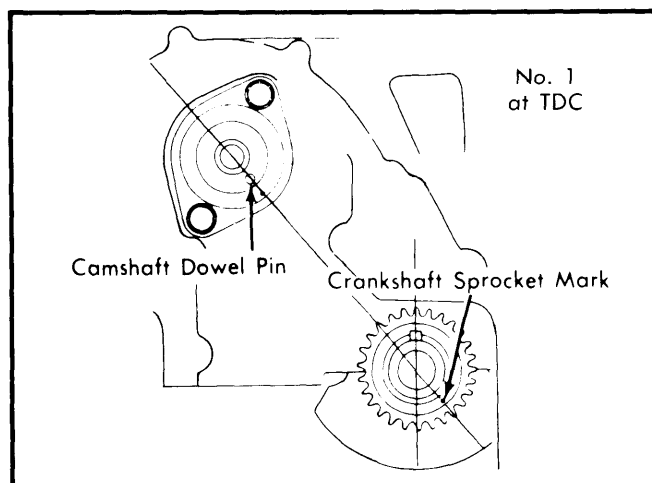

Fig. 6 Aligning Marks for Timing Chain and Sprocket Installation
- 6) Install timing chain and sprockets together. See Fig. 6. Apply a light coat of oil to crankshaft sprocket bolt and tighten. Install chain tensioner and vibration damper. Install timing chain cover.